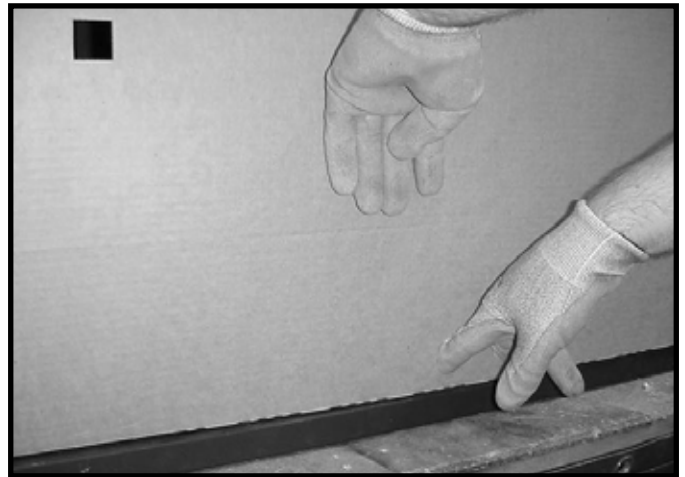

Figure 11.7 Prepare to Open Lower Access Panel
Step 6. To open lower access panel of splatter guard, place one hand above score line and place two fingers from other hand in the round holes on the front of the splatter guard. See Figure 11.7. Pull out and fold up the panel as shown in Figure 11.8. Disengage the tabs on left and right bottom of splatter guard and fit them into the square holes. The tabs are now inside the front of the splatter guard; carefully bend them down. See Figure 11.9.